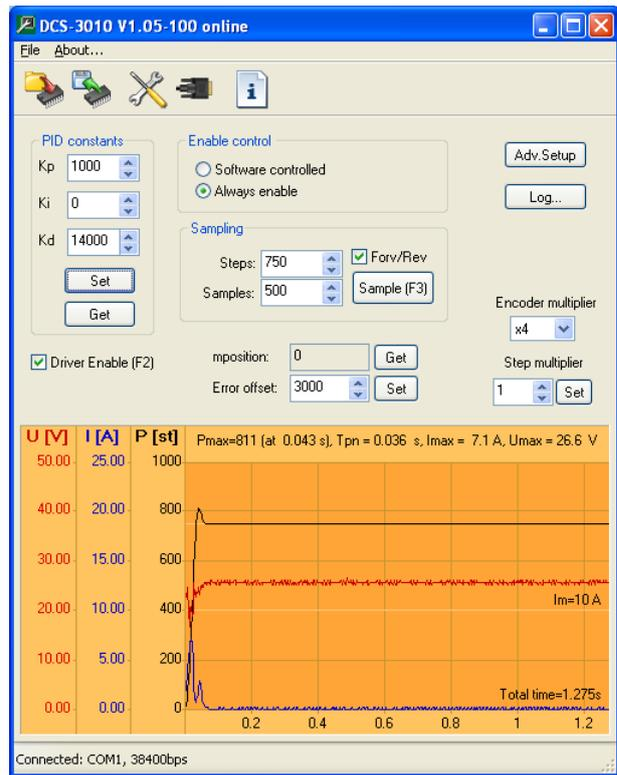

Figure 10.2
**STEP 2:** Increase constant  $K_d$  until the system response is not "calm" as is shown in Figure 10.2. The constant  $K_d$  may be significantly larger than the constant  $K_p$ .